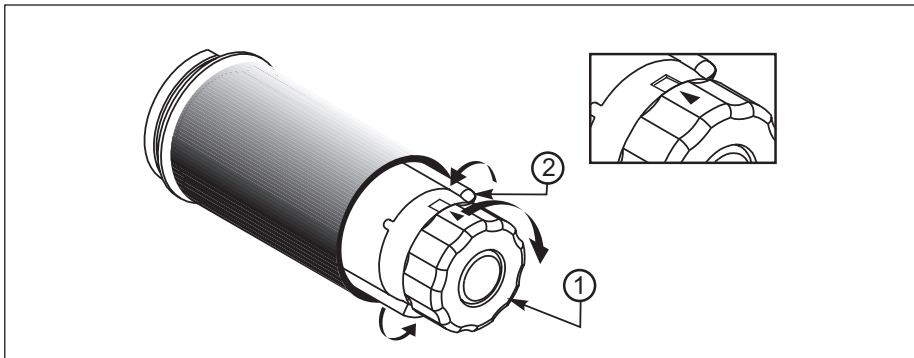

Figure 23
7. Before wrapping the ribbon around the ribbon take-up spindle, ensure that the arrow on the knob aligns with the indented notch (see Figure 23 inset).
2. Refer to Figure 23. While holding the ribbon take-up spindle, turn the knob (1) clockwise until it stops. This will cause the ribbon release bars to pivot down (2), easing the spindle's "grip" on the wound ribbon.
3. Slide the ribbon off of the ribbon take-up spindle. Once the spent ribbon has been removed, ensure that the arrow on the knob aligns with the indented notch in the ribbon take-up spindle (see Figure 23 inset).